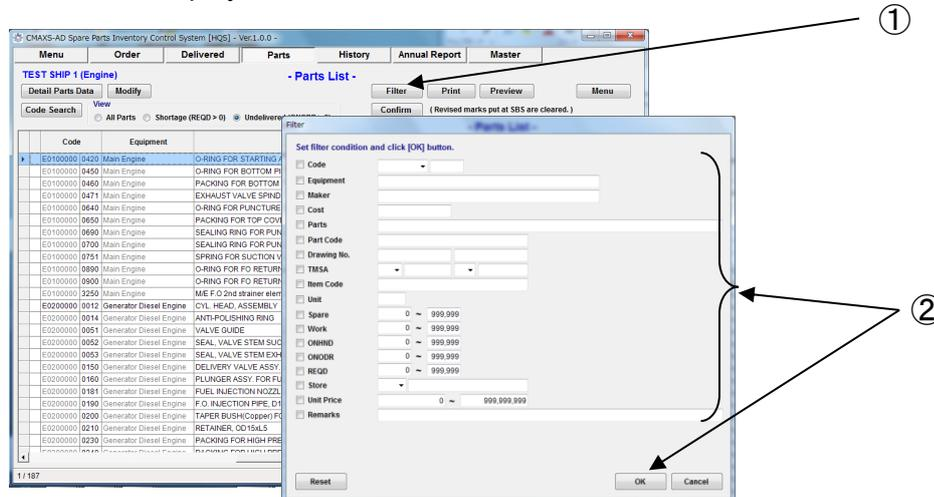

Fig.18-2 Filter Screen
- (1) Select [Filter] on the "Parts List Screen"(Fig.18-2).
- (2) Select or input extracting conditions. Then, select [OK].